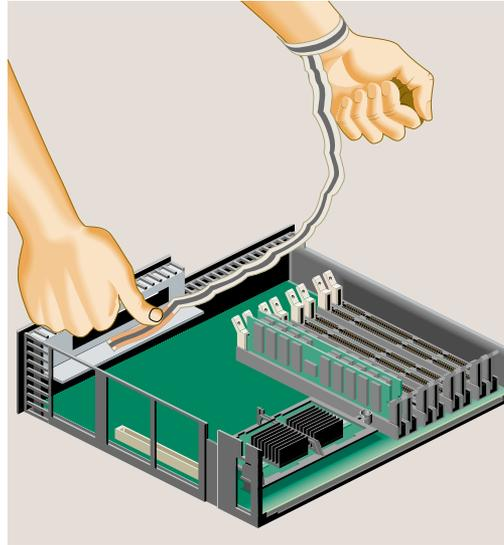

Figure 2-35 Attaching the Wrist Strap
1. Before touching any of the components, ground yourself to a metal part of the chassis with a wrist strap (Figure 2-35).